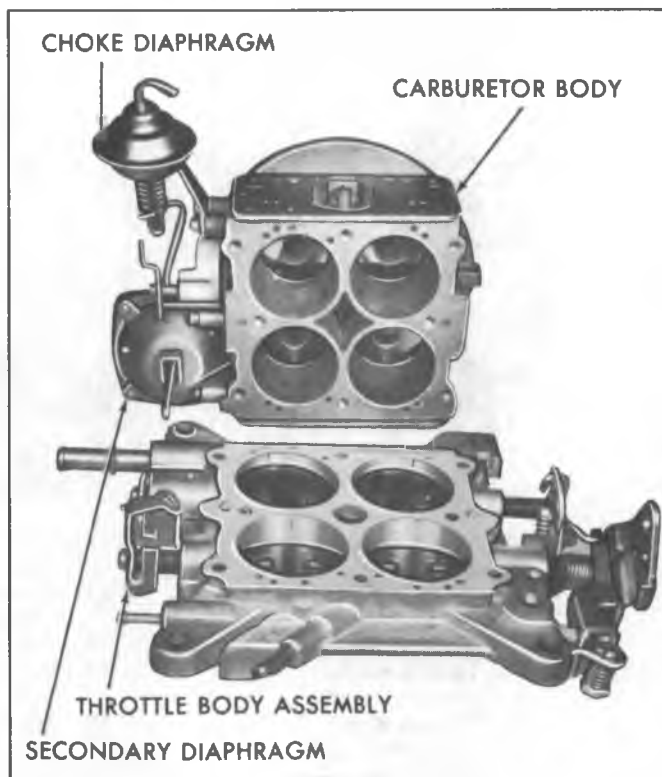

Fig. S13--Assembly of Main Body to Throttle Body
1. Invert the main body, align new throttle body to main body gasket, then position throttle flange assembly and install the screws and tighten securely. (Fig. S13).